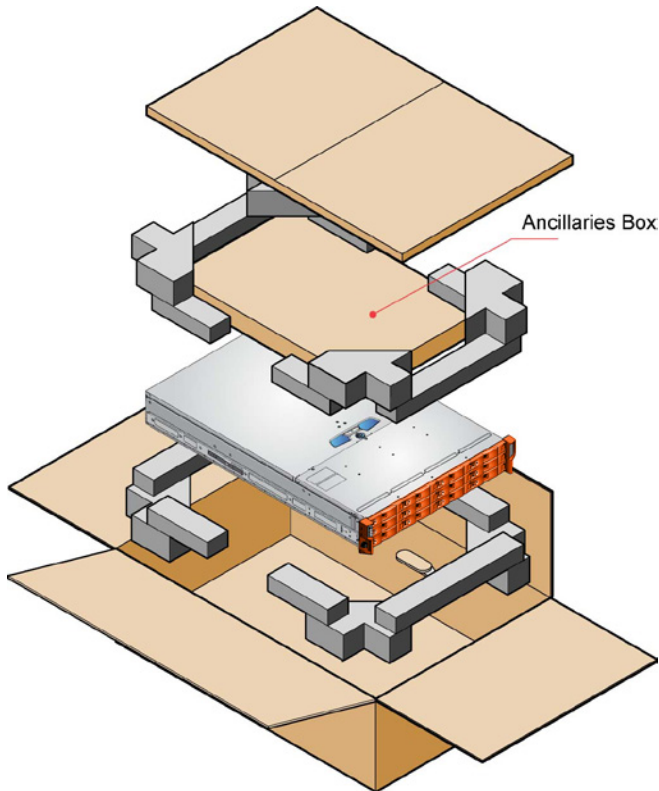

Figure 1 - Unpacking the Enclosure
2. Unpack the system. See Figure 1.